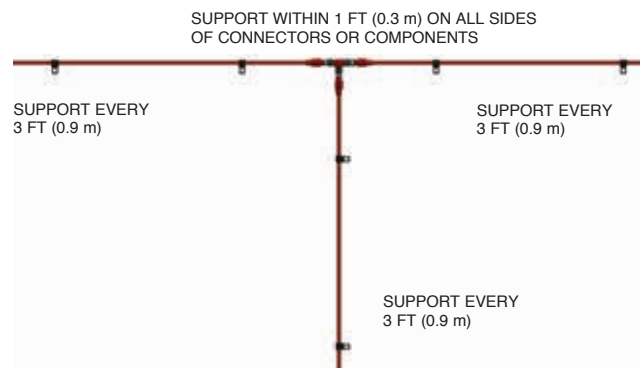

FIGURE 5-13
- Secure cables at least every 3 ft (0.9 m) and within 1 ft (0.3 m) on both sides of connectors or connection to a device. See Figure 5-13.